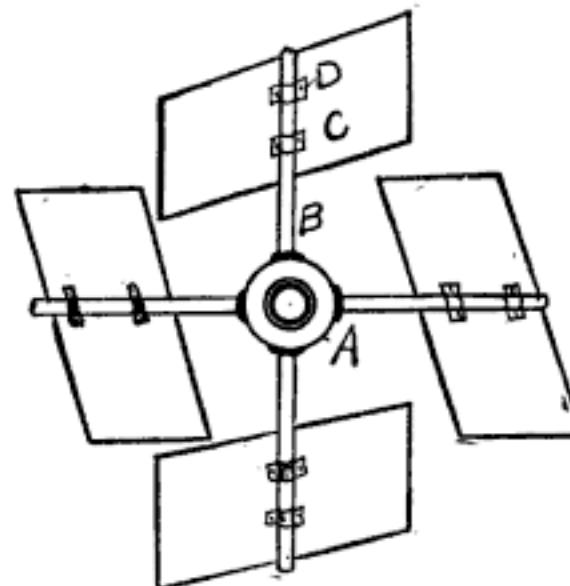
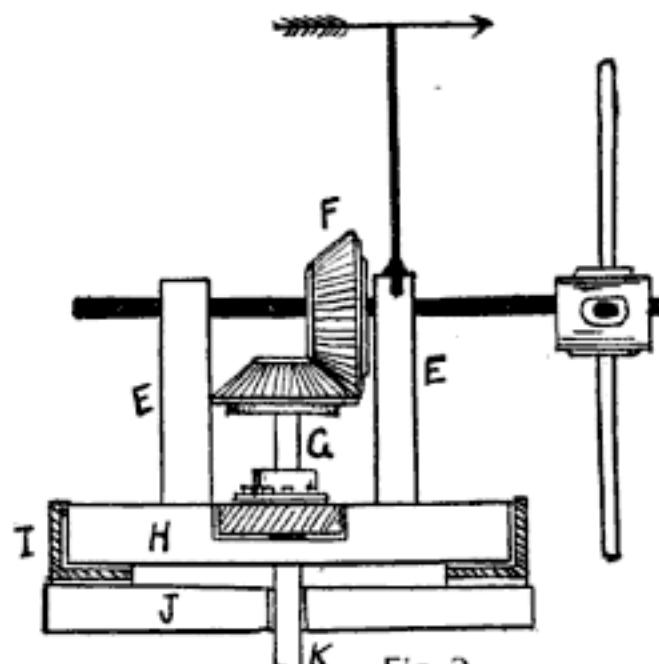
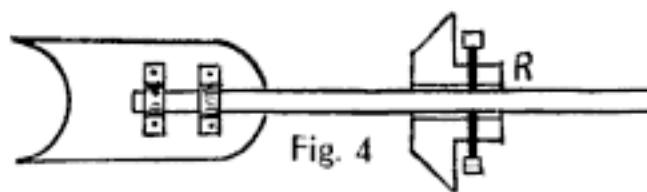
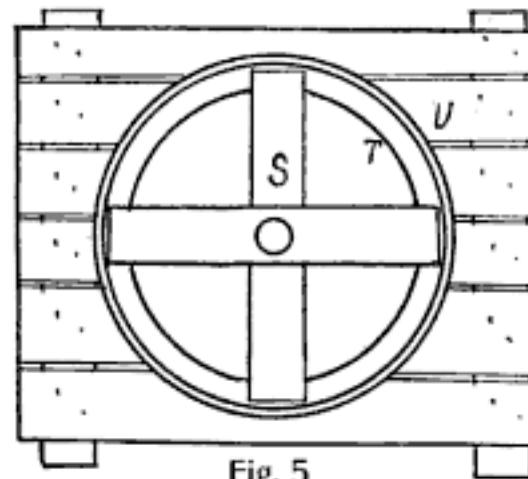

Fig. 1
Fig. 2
Fig. 4
Fig. 5
The hub for the revolving fan wheel is first constructed. One good way to get both the hub, lining, shaft and spokes for the blades, is to go to a wheelwright's and purchase the wheel and axle of some old rig. There are always a number of discarded carriages, wagons or parts thereof in the rear of the average blacksmith's shop. Sometimes for half a dollar and often for nothing, you can get a wheel, an axle, and connected parts. Remove from the wheel, all but the four spokes needed for the fans as in Fig. 1. The same hub, axle and bearings will do. In case you cannot secure a wheel and shaft, the hub may be made from a piece of hardwood, about 4 in. in diameter and 6 in. long. A 2-in. hole should be bored through for a wooden shaft, or a 1½-in. hole for a metal shaft. The hub may be secured by putting two or three metal pins through hub and shaft. Adjust the spokes by boring holes for them and arrange them so that they extend from the center A, like B. The wheel is then ready for the blades. These blades should be of sheet metal or thin hardwood. The sizes may vary according to the capacity of the wheel and amount of room for the blades on the spokes. Each one is tilted so as to receive the force of the wind at an angle, which adjustment causes the wheel to revolve when the wind pressure is strong enough. Secure the blades to the spokes by using little metal cleats, C and D. Bend these metal strips to suit the form of the spokes and flatten against the blades and then insert the screws to fasten the cleats to the wood. If sheet metal blades are used, rivets should be used for fastening them.
The stand for the wheel shaft is shown in Fig. 2. Arrange the base piece in platform order, (J). This is more fully shown in Fig. 5. On top of this base piece, which is about 36 in. long, place the seat or ring for the revolving table. The circular seat is indicated at I, Fig. 1. This ring is like an inverted cheese box cover with the
show in this sketch, but in Fig. 5, where it is marked S. This part is made of two pieces of 2-in. plank, about 3 in. wide, arranged so that the two pieces cross to make a letter X. When the pieces join, mortise them one into the other so as to secure a good joint. Adjust the uprights for sustaining the wheel shaft to the X pieces as shown at E, E, Fig. 2. These are 4x4-in. pieces of wood, hard pine preferred, planed and securely set up in the X-pieces by mortising into the same. Make the bearings for the wheel shaft in the uprights and insert the shaft.
The tail board of the windmill is illustrated in Fig. 4. A good way to make this board is to use a section of thin lumber and attach it to the rear upright, E of Fig. 2. This may be done by boring a hole in the upright and inserting the shaft of the tail-piece. In Fig. 4 is also shown the process
of fastening a gear, R, to the shaft. The set screws enter the hub from the two sides and the points are pressed upon the shaft, thus holding the gear firmly in place. The platform for the entire wheel device is shown in Fig. 5. The X-piece S is bored through in the middle and the upright shaft passes through. The tin run-way or ring is marked T, and the X-piece very readily revolves in this ring, whenever the wind alters and causes the wheel's position to change. The ring and ring base are secured to the platform, U. The latter is made of boards nailed to the timbers of the staging for supporting the mill. This staging is shown in Fig. 6, in a sectional view. The ring with its X-piece is marked V, the X-piece is marked W, and the base for the part, and the top of the stage is marked X. The stage is made of 2x4-in. stock. The height may